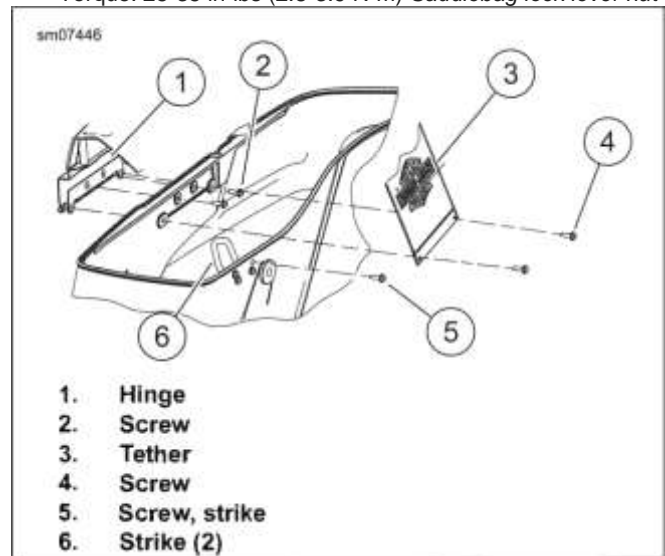
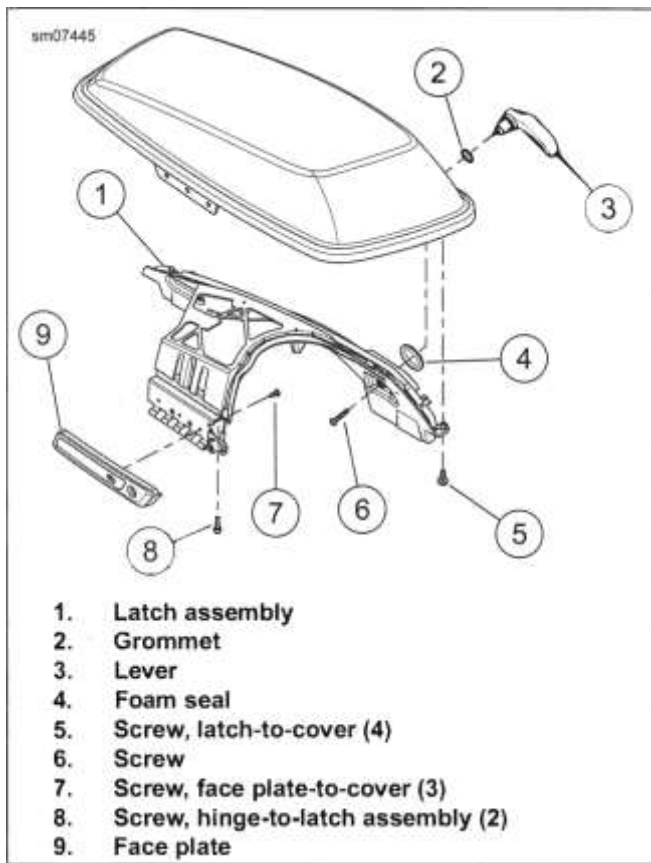

Figure 3-193. Saddlebag Hinge
Figure 3-194. Saddlebag Latch Assembly
3. See Figure 3-193. Remove screws (4) securing tether to saddlebag.
4. Remove two remaining screws (2). Separate cover with latch assembly from saddlebag.
7. See Figure 3-194. Remove three screws (7).
8. Remove two screws (8). Remove hinge.
4. See Figure 3-194. Remove two screws (7) securing hinge to latch assembly. Remove latch assembly.
1. See Figure 3-193. Install strike. Secure with screws (5). Tighten.
1. See Figure 3-194. Inspect condition of foam seal (4).
1. See Figure 3-194. Align hinge. Secure with screws (8). Tighten.
*See Figure 3-193. Screws (2, 4) are easily cross-threaded. Use extreme care when installing.*
1. See Figure 3-194. Secure hinge to latch assembly with two screws (7).
*Verify foam seal (4) is in place on latch assembly*